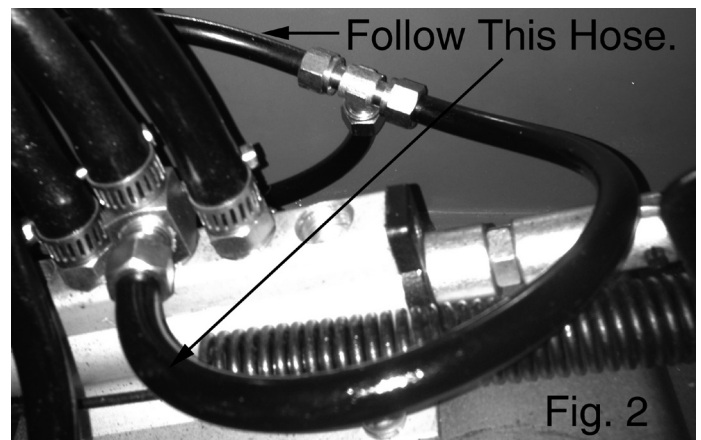

Fig. 3
5. Make sure the air is not connected to your machine and that there is no pressure left in the tank. Splice the air line that is coming from the center of the rear foot pedal and then reconnect them using the provided "T" fitting. See fig. 2 and fig. 3.